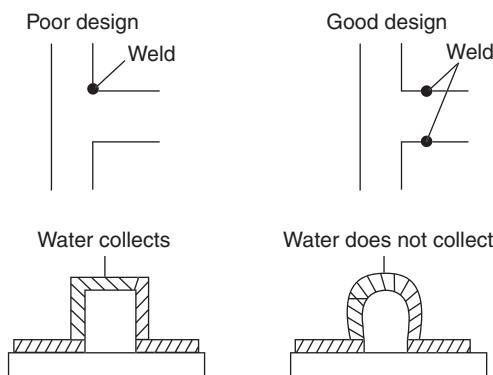

Figure 41 Design selection for corrosion control.
- In any design, the greater the number of angles, corners, edges and internal surface, the more difficult it becomes for efficient surface treatment. Hence, as far as possible, L-, T- and U-shaped profiles in construction should be minimized (Figure 41).